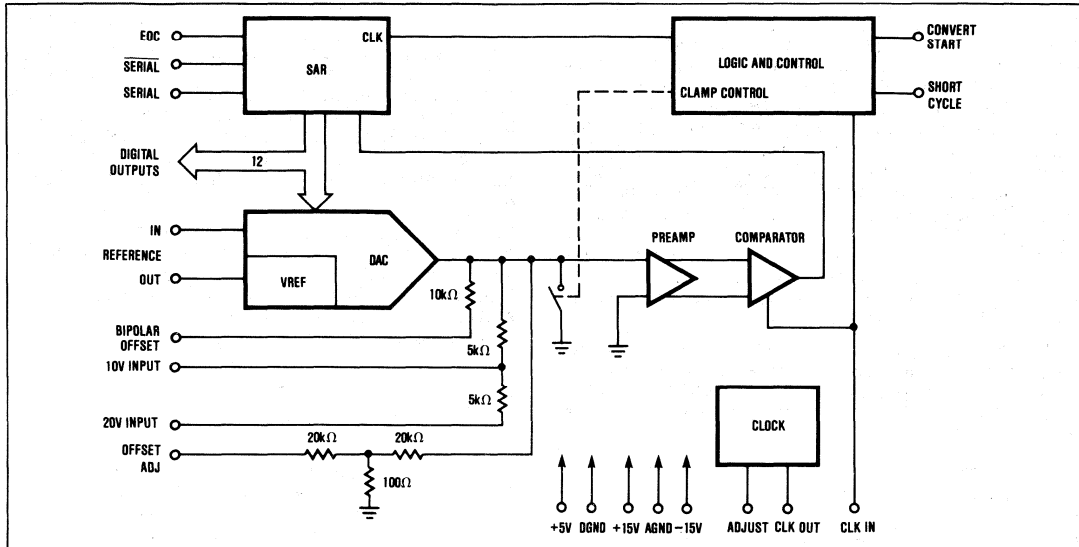

Figure 1. Maxim AD578 Block Diagram.
Note 10: t_3 and t_6 are measured with the load circuits of Figure 1 and defined as the time required for an output to cross 0.8V or 2.4V.
The AD578 is a 12-bit successive approximation A/D converter in which the analog input is compared to the output of a high speed D/A converter (Figure 1). The D/A is binarily stepped until its output matches the analog input. The digital code from the successive approximation register (SAR) appears on the outputs as the binary value of the input voltage. The conversion process consists of twelve successive tests, starting with the D/A set to half Full Scale (FS). The comparator determines whether the D/A output is higher or lower than the analog input and either sets or resets Bit 1 (MSB). On the next test, the D/A is incremented up or down ¼ FS, based on the last decision, and is again compared to the input. The result is stored as BIT 2. Each comparator decision is clocked into the SAR for the remaining bits until all twelve have been tested.
The analog input should be driven by a wide bandwidth, low output impedance op amp or a fast sample-and-hold. Although V_{IN} may not change during the conversion, the load current of the A/D abruptly changes with each clock cycle due to successive DAC codes (Figure 1). The amplifier must recover to the original value in time for the rest of the circuit to settle before the comparator can make a decision. An op amp which can settle to 0.01% in 50 to 100ns for a 0.5mA change in load current with no thermal tail and low offset voltage drift is recommended.